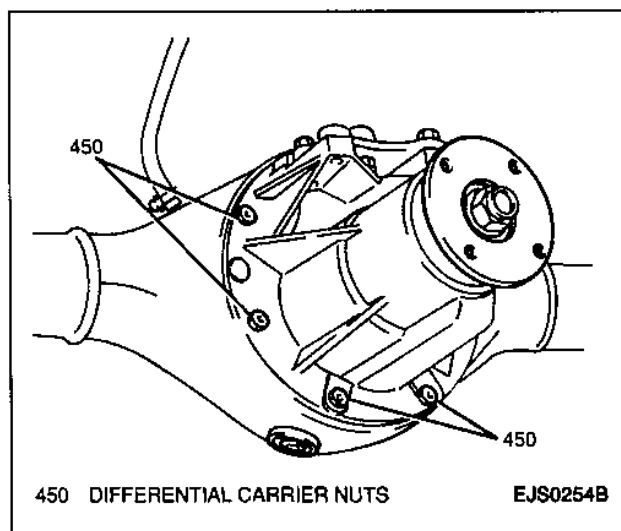

Figure 25—Differential Carrier Nuts
2. Differential carrier into rear axle housing; secure with eight nuts (Figure 25).